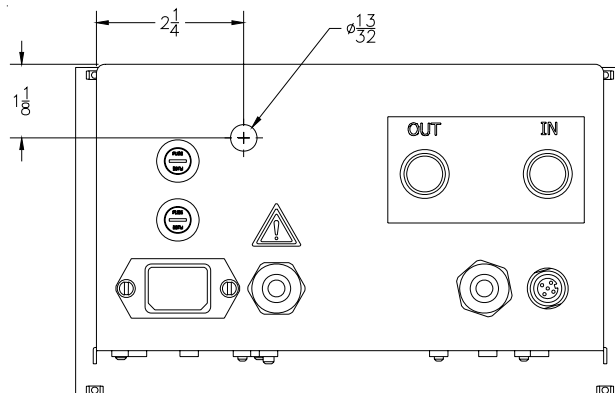

Figure 1
2. Remove the hole plug from the hole shown in Figure 1. If unit does not already have a hole in this location, drill a 13/32" (10.3mm) hole as shown in Figure 1.
5. Install the pressure switch in the hole shown in Figure 1 and secure with mounting nut (see Figure 3).